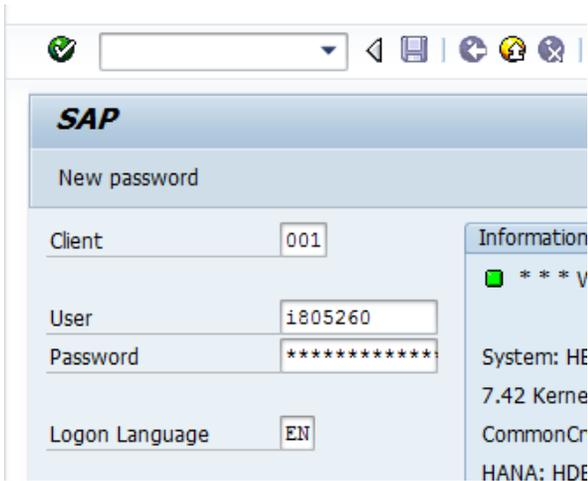

Figure 22 – Log on to SAP BPC10.1 system
2.1 **Log into SAP system:** Log on to SAP BPC10.1 system with your username and password as shown in figure 22.